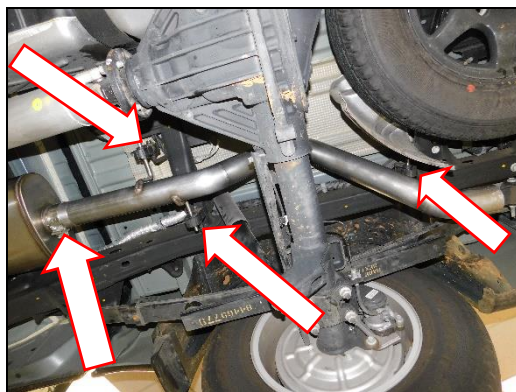

Figure 6
3. Install (x1) supplied band clamp and install the Blackheart over-axle pipe. Slide (x3) hangers in to the OE rubber isolators (**Figure 6**).